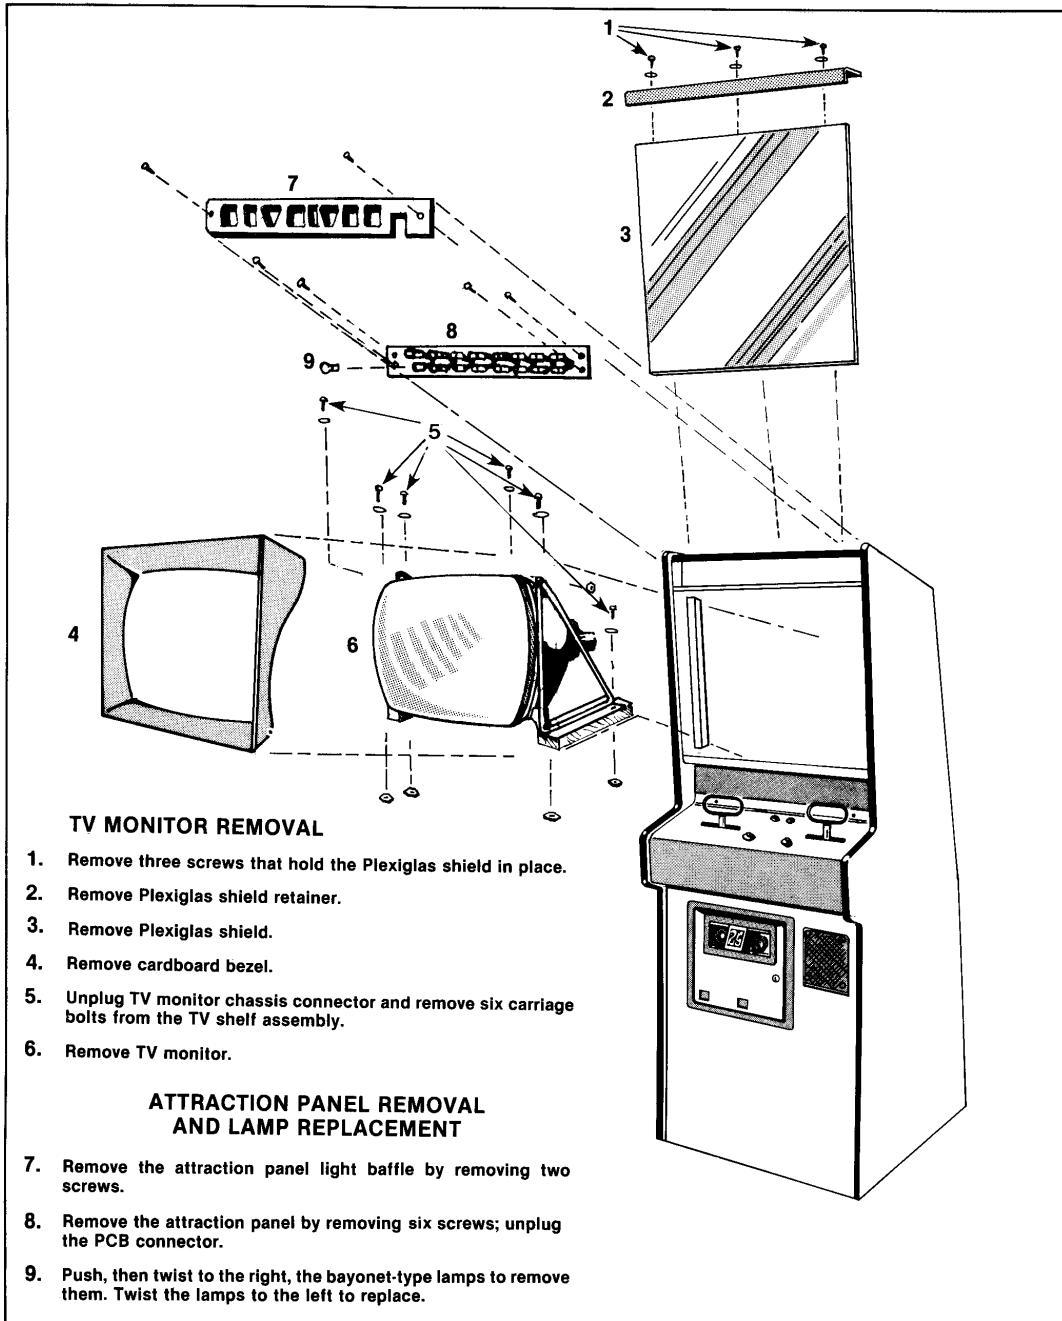

Figure 3-10 TV Monitor and Attraction Panel Removal
E. TV MONITOR REMOVAL (See Figure 3-10)
F. ATTRACTION BOARD AND LAMP REMOVAL (See Figure 3-10)